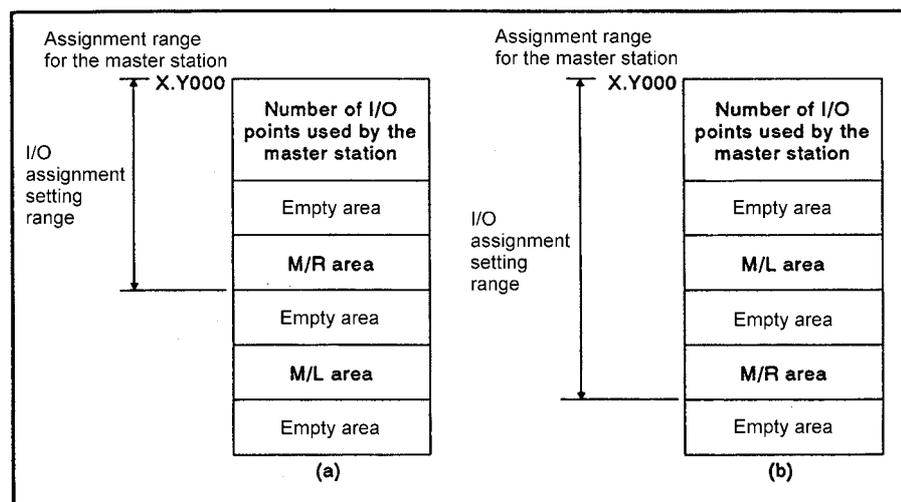

Fig 7.48 I/O assignment setting range
- If the M/L area is assigned after the M/R area, it is not necessary to assign inputs and outputs to the local station setting range. (Refer to Fig 7.48 (a).)
- If the M/L area is assigned after the M/R area, it is necessary to assign inputs and outputs to the local station setting range. (Refer to Fig 7.48 (b).)
In the I/O assignment setting, the device range is set with the assumption that the input modules or output modules are installed in the area of "M/L area" or that empty slots exist in the "empty area (range marked by *)" Fig 7.48.